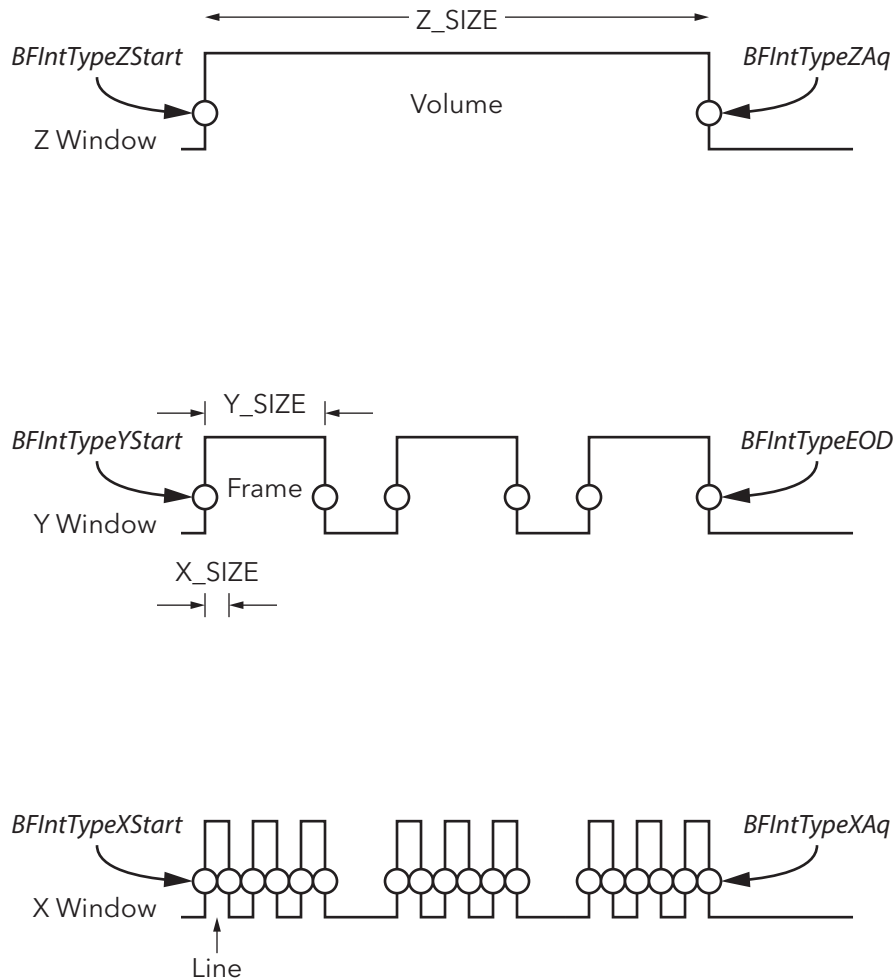

Figure 2-5 X/Y/Z Interrupts
Interrupts at the start and end of each major window are available for use by host processes. The X, Y and Z windows all can provide interrupts. There are no interrupts for the V Window. Figure 2-5 Show the relationship between the interrupts and the acquisition Windows.
*Note: The labels in italics in Figure 2-5 are the actual interrupt names that can be used with the BitFlow SDK function calls.*